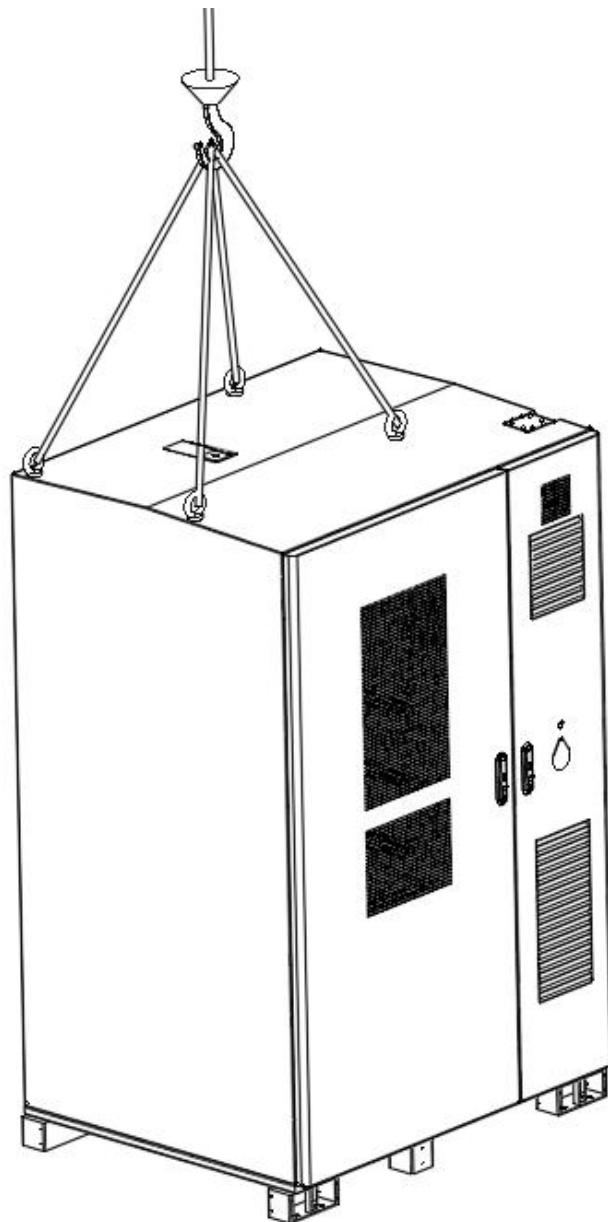

Figure 4-6 Schematic Diagram of Energy Storage Cabinet Lifting
- ① The lifting process must strictly follow the lifting diagram, see Figure 4-6 for details;
- ② The lifting must be vertical, and dragging on the ground is not allowed;
- ③ After lifting the cabinet approximately 300mm off the ground, pause the movement to check the connection of the lifting equipment. Only continue lifting after confirming that the connection is secure;
- ④ During the entire lifting process, it should be carried out slowly, paying attention to the balance of the cabinet, and the speed must not be too fast;
- ⑤ During the entire lifting process, it is strictly prohibited for anyone to stand under the cabinet and crane;
- ⑥ The combiner box is operated in the same manner;